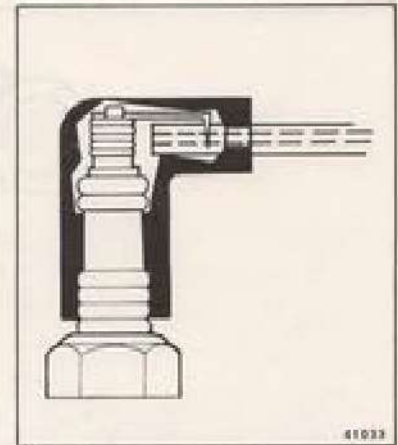

Figure 4-17. Correct Spark Plug Lead Installation
Connect the high tension lead wires to the spark plugs. Make sure that the spring clips in the spark plug lead covers make firm contact with the spark plug terminals. See Figure 4-17.
- a. Remove the high tension lead from each spark plug. To prevent damage to the spring terminal on the high tension lead, twist and pull on the cover. See Figure 4-17.